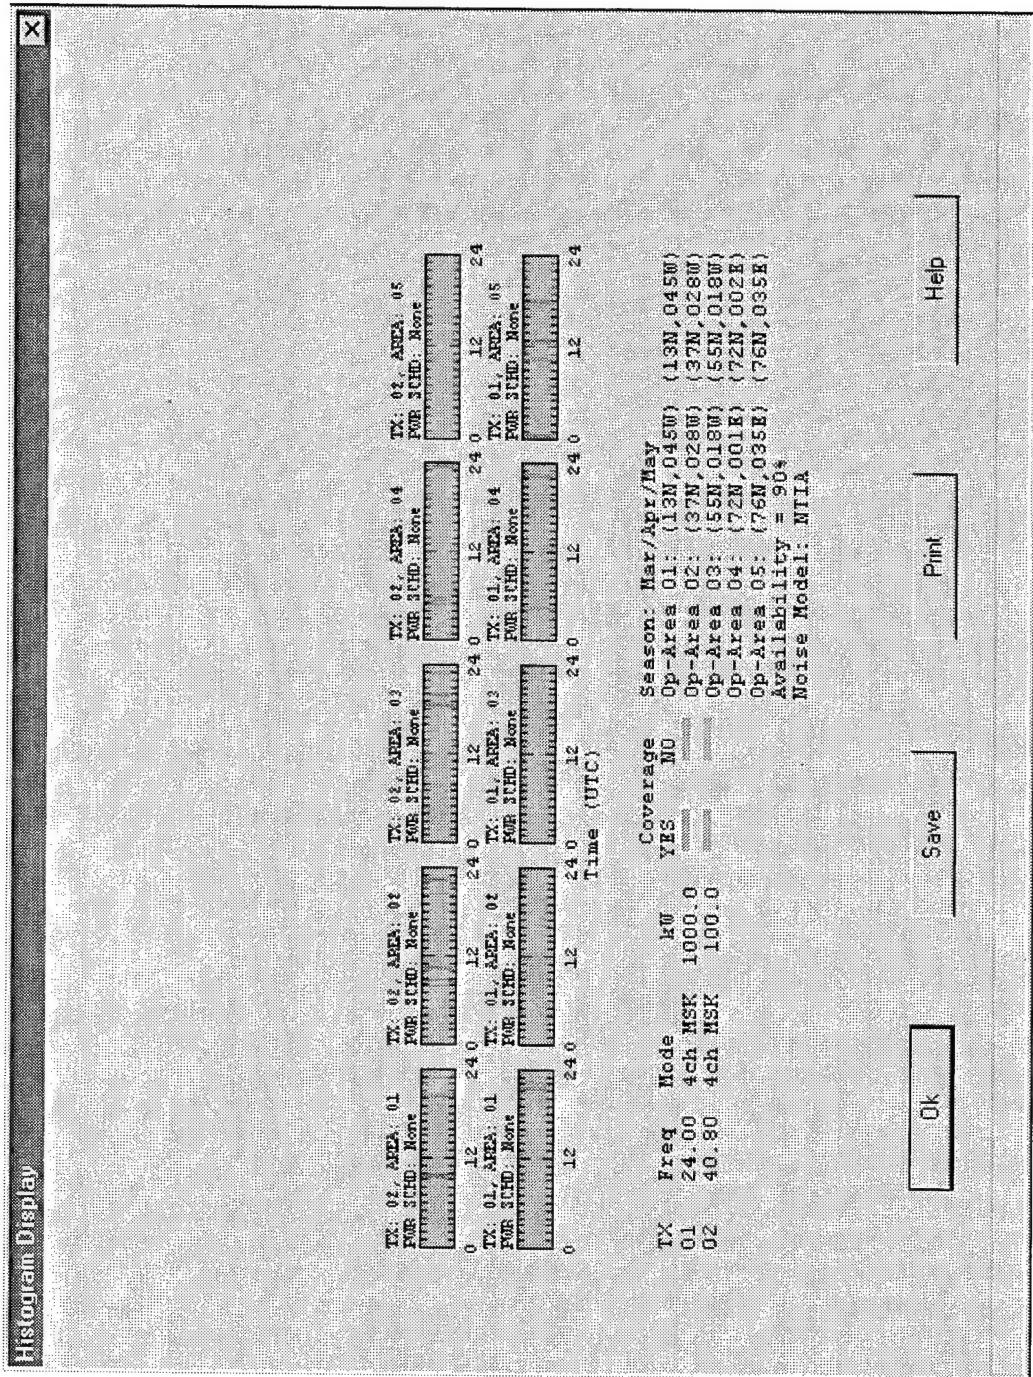

Figure 19. Example of a time availability plot.
- A time availability plot that illustrates copy/no copy periods for the selected transmitter operating area pairs. To perform a Time Availability plot, select Run Scenario -> Show Time Availability.... Figure 19 is an example of the resulting hard copy.